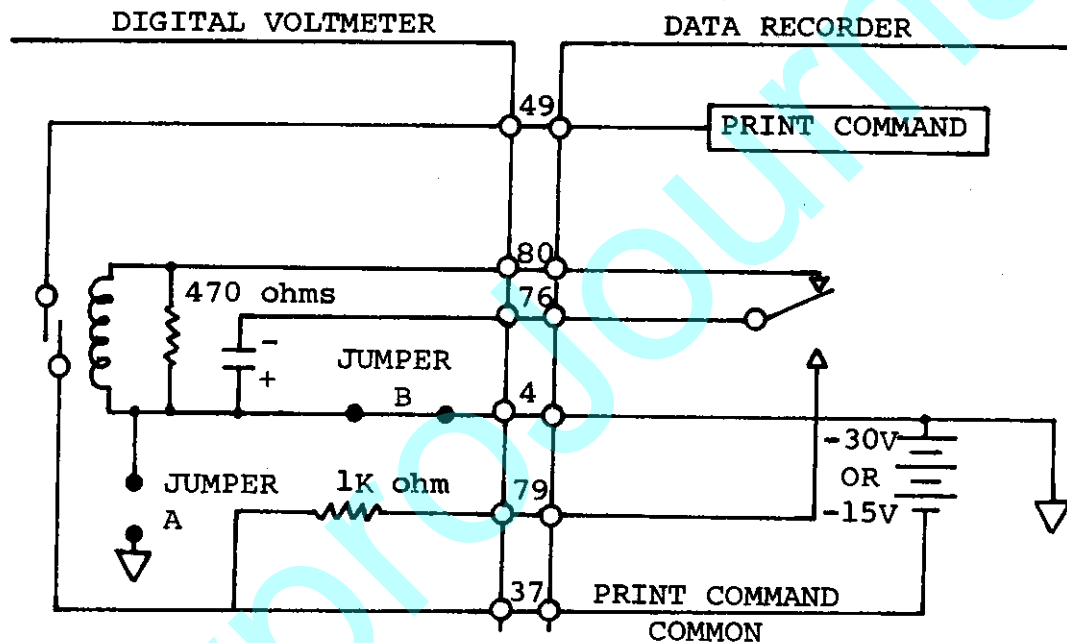

Figure 3. Print Complete and Print Command Connections with an External Voltage Source used to Operate the Relay
- . AUTO PRINT -- This position allows the instrument to record continuously. When a voltage measurement is completed, a print command is issued to the data recorder through N.O. contacts. The print complete signal initiates a new reading through Form C contacts located in the data recorder. See figures 3 and 4.
In addition, connections must be made between the data recorder and the digital voltmeter to provide the Print Command and Print Complete signals. The digital voltmeter is equipped with a Print Complete relay (K-51, referred to as Print Feedback in the schematic). The voltage necessary to operate this relay may be derived either internally or externally; however, it is preferable to operate this relay externally and take the necessary voltage from the associated data printer. (The NLS Models 155 and RS-2 are equipped to supply this voltage.) Figure 3 shows the connections to be made when taking voltage from the data recorder. Note
that a 470 ohm resistor is located across the relay coil; this resistor is retained when the voltage source is at about -30 volts DC, when the voltage source is at about -15 volts DC, the 470 ohm resistor should be removed from the circuit. Although figure 3 shows operation in one polarity, the opposite polarity may be used as a source if the 50uf capacitor connected to pins 76 and 4 is reversed so that the capacitor positive connection goes to pin 76 and the negative connection goes to pin 4. To make this change it is only necessary to unsolder the capacitor and reinstall it reversed.
The jumper connections shown in figures 3 and 4 are located at the top of the right end of the printed circuit board which is vertically mounted across the width of the instrument.